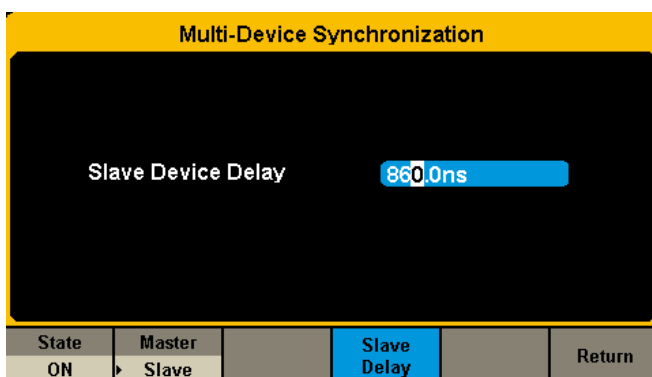

Figure 10. Eliminate the Slave Delay
**2) Enter the absolute Mean value of Skew into Slave Device Delay.** This will eliminate the delay between traces that we observed with our oscilloscope. See Figure 10.